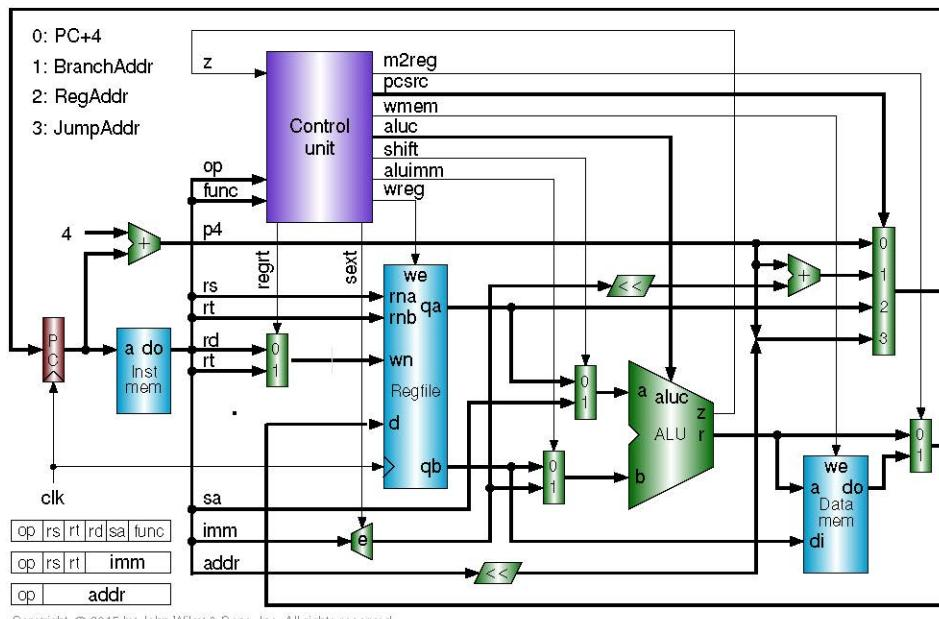
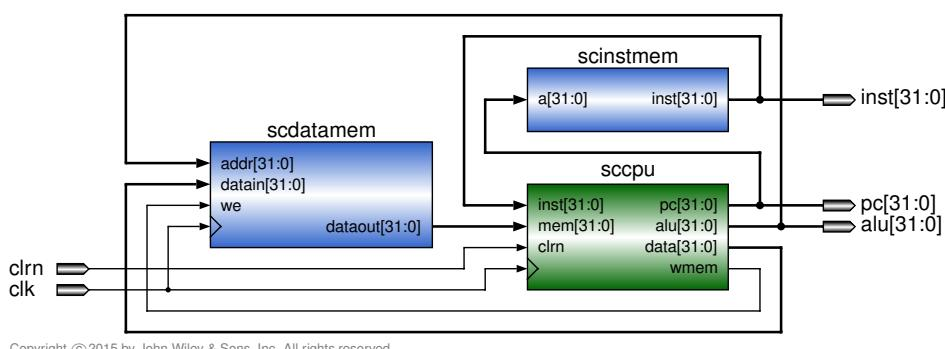

Figure 5 Block diagram for a combination of formats in this lab
Figure 6 Block diagram of single cycle computer
The data that will be written to the register file may be the output of the ALU or the data in the data memory. The destination register number may be rd or rt. The (lw) instruction writes the data read from the memory to the register rt of the register file. Other instructions may write the output of the ALU to the register rd or rt of the register file. Two 32-bit 2-to-1 multiplexers are used for selecting the data that will be written to the register file as shown in Figure 5. If ‘m2reg’ is a ‘1’, the data read from the memory module, Figure 6 shows the single cycle computer that consists of a single cycle CPU and two memory modules.
12. Write a Verilog code that implement the following instructions using the design shown in Figure 5 with two outside memories as shown in Figure 6. Your top design should mimic Figure 6. The instruction memory should contain the following instructions: